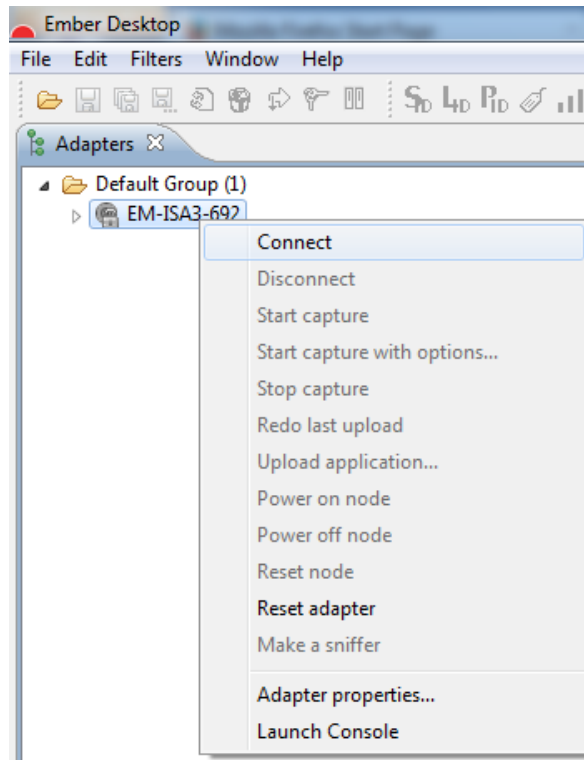

Figure 5. Connect Selection with Ember Desktop
1. Right-click the adapter from the Adapters view and select Connect from the pop-up menu, as shown in Figure 5.